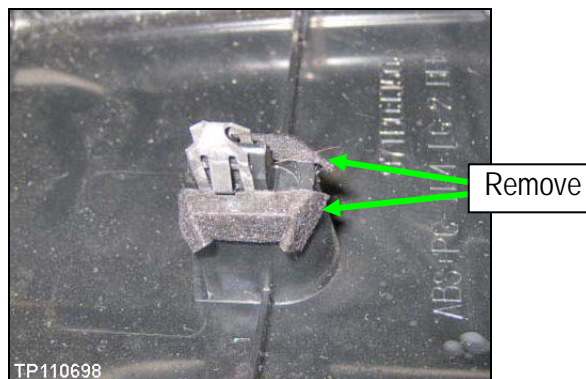

Figure 12
13. Remove any felt cloth found at the sides of the clips (see Figure 12).